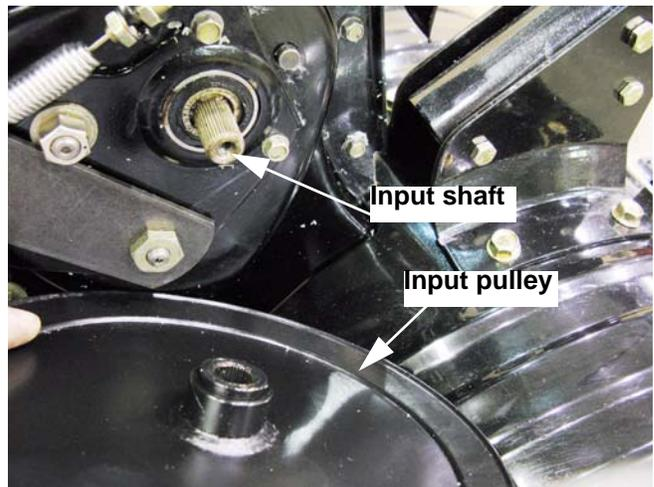

Figure 2.6
2. Input pulley removal: See Figure 2.6.